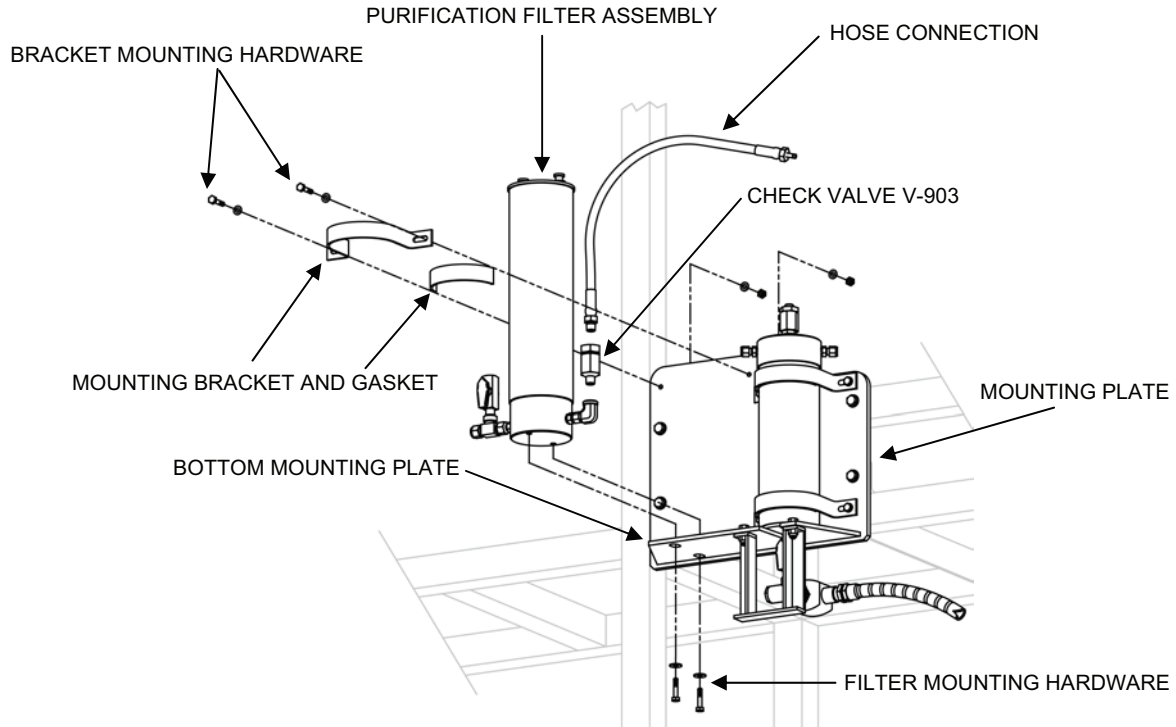

Figure 4. Purification Filter Assembly AF2.
2. Remove Purification Filter Assembly AF2 as follows (see Figure 4):